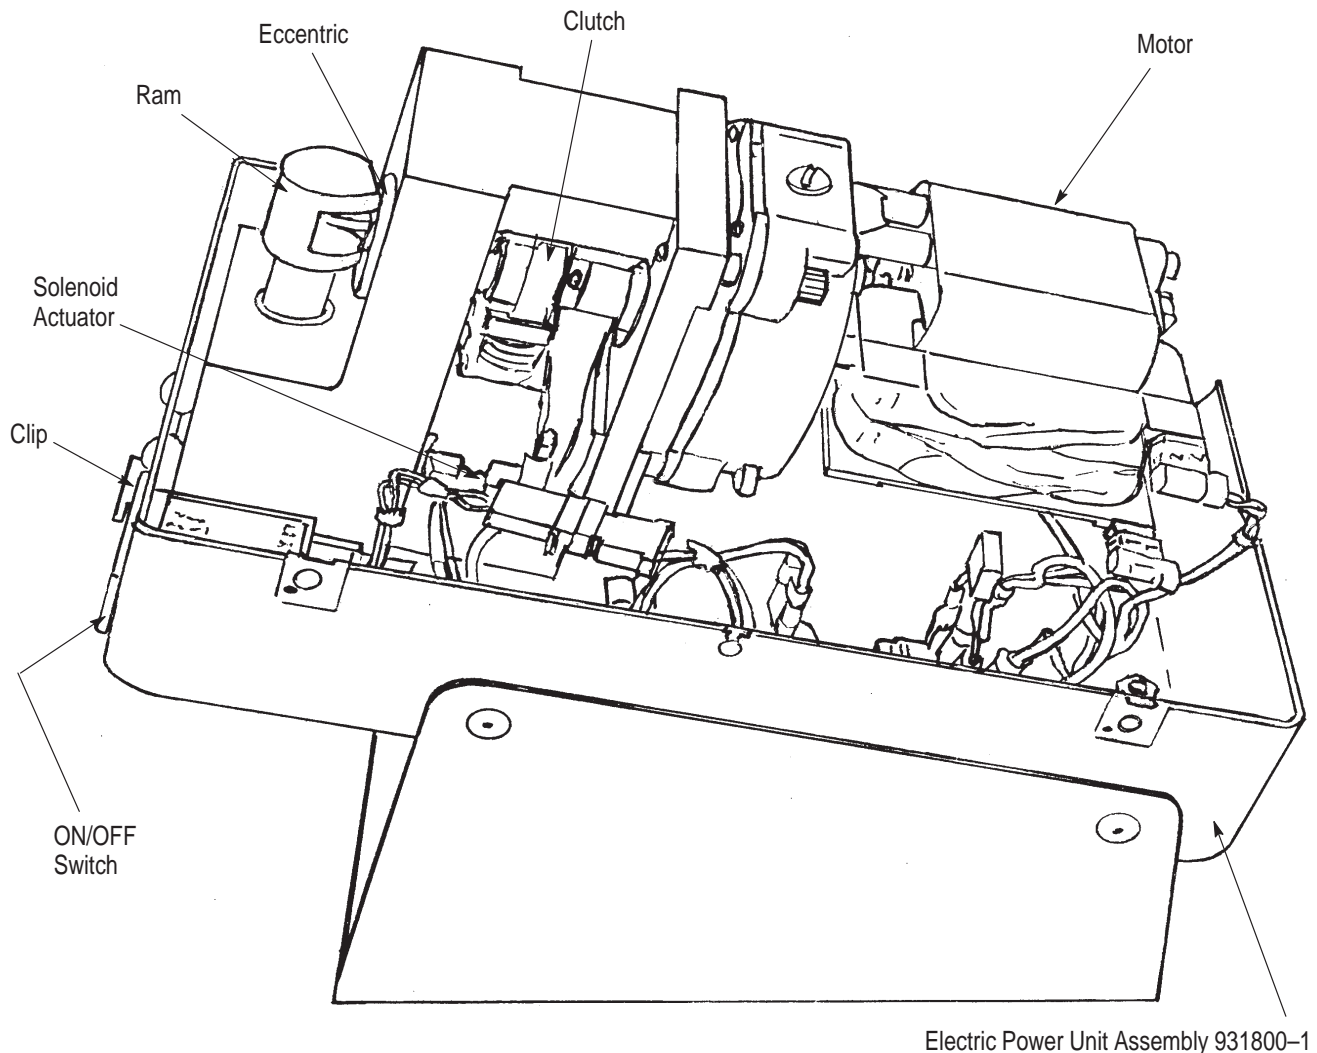

Figure 3
2.1. Physical Description (Figure 3)
2.2. Functional Description (Figure 3)